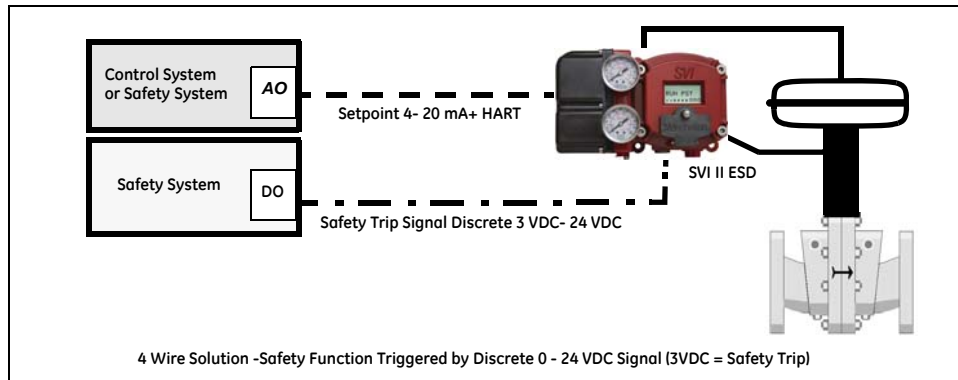

Figure 53 Analog with Discrete Safety Demand (A/DSD) Configuration
The Discrete Safety Demand configuration is: 24 VDC, power and trip signal with superimposed HART[®] communications (Figure 53).
The Analog with Discrete Demand configuration is: 4 - 20 mA power input with superimposed HART[®] communications for control system and 24 VDC 2 wire for Safety System (Figure 53).
1. Loosen the four (4) cover screws and remove the cover of the SVI II ESD.
2. Connect the +/- terminals of the current source to the 4 - 20 mA IN connector (on the terminal board). The current source + must connect to the terminal board connector +, and the same for -. See Figure 53 on page 78.